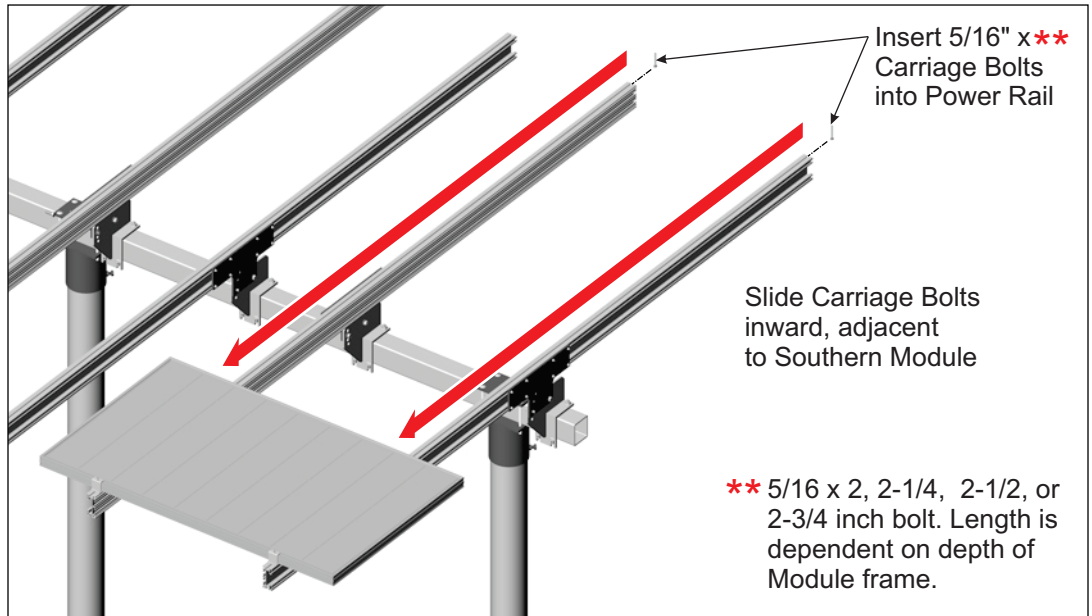

Figure 5-4: Pre-loading Standard Mid Clamp Hardware into Power Rail
- C. Before placing the interior Module onto the Power Rails, first insert two (one in each Power Rail channel) 5/16" x 2, 2-1/4, 2-1/2, or 2-3/4" carriage bolts (bolt length is dependent on depth of Module frame) into the Module Rail, sliding the bolts inward next to the previously installed exterior Module. (See Figure 5-4)